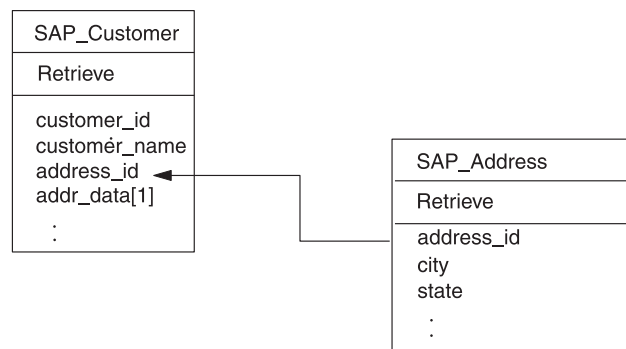

Figure 30. Example customer and address relationship
- In a single-cardinality relationship, the foreign key is determined by the primary key in the child referencing a **non-key** attribute in the parent as its foreign key. Each child has at least one simple attribute that references a non-primary key attribute in its parent as a foreign key. Figure 30 provides an example.
Figure 30 provides an example of a simple WebSphere business object developed to process customer objects in SAP. This example SAP_Customer has a single-cardinality relationship to the example address object that it contains (the `addr_data[1]` attribute has cardinality 1). The primary key attribute (`address_id`) in the child business object references a non-primary key (`address_id`) in the parent business object.